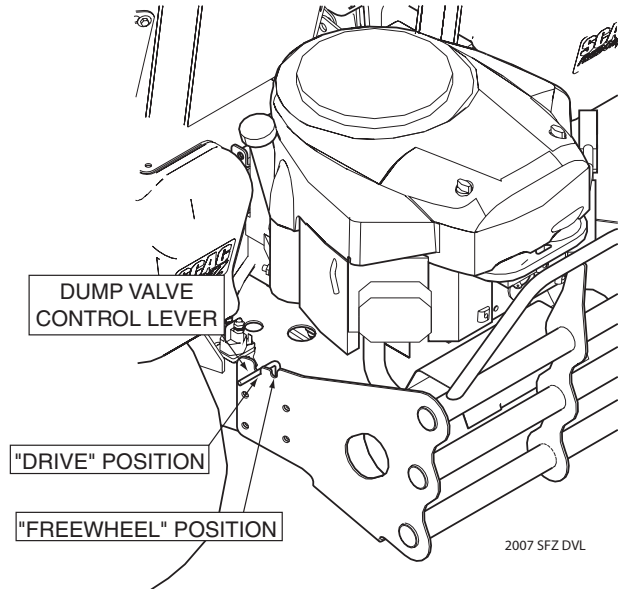

Figure 7-4. Dump Valve Control Lever
11. Move the dump valve control levers to the "freewheel" position. See Figure 7-4.
14. Engage the parking brake. Move the dump valve control levers to the "drive" position. See Figure 7-4.